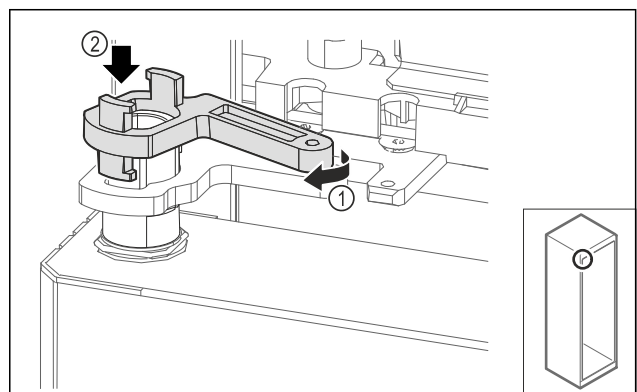

Fig. 62
- Turn the swap bearing block lock slightly Fig. 62 (1) and place it on the sleeve Fig. 62 (2).